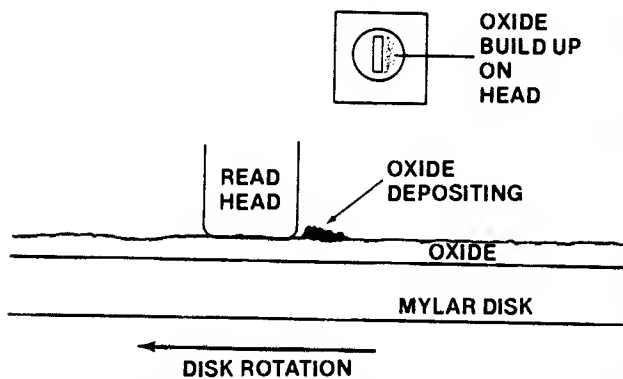

Fig. 5-9. Oxides are wiped off the disk surface and built up on the head surface.
2. Heads need cleaning to remove the oxides that build up on the leading edge of the head (the side facing the direction of disk rotation), as shown in Fig. 5-9.